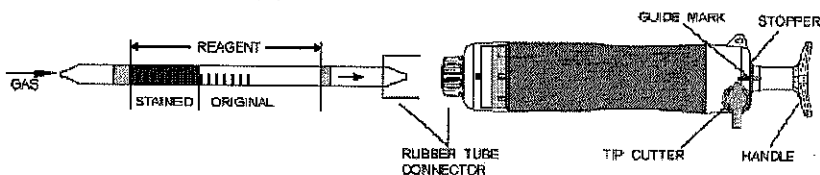

Fig.1
- ② Insert the detector tube into the aspirating pump securely as shown in Fig.1. (Arrow mark shall point to the pump.)
- ③ Align the guide marks on the shaft and stopper of the aspirating pump.
- ④ Pull the pump handle at a full stroke until it locks and wait for 1 minute or until the completion of sampling is